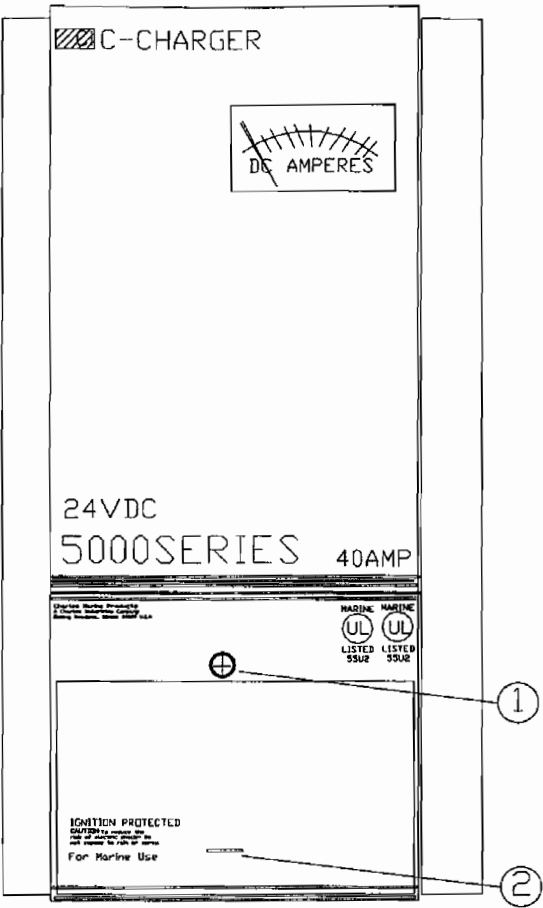
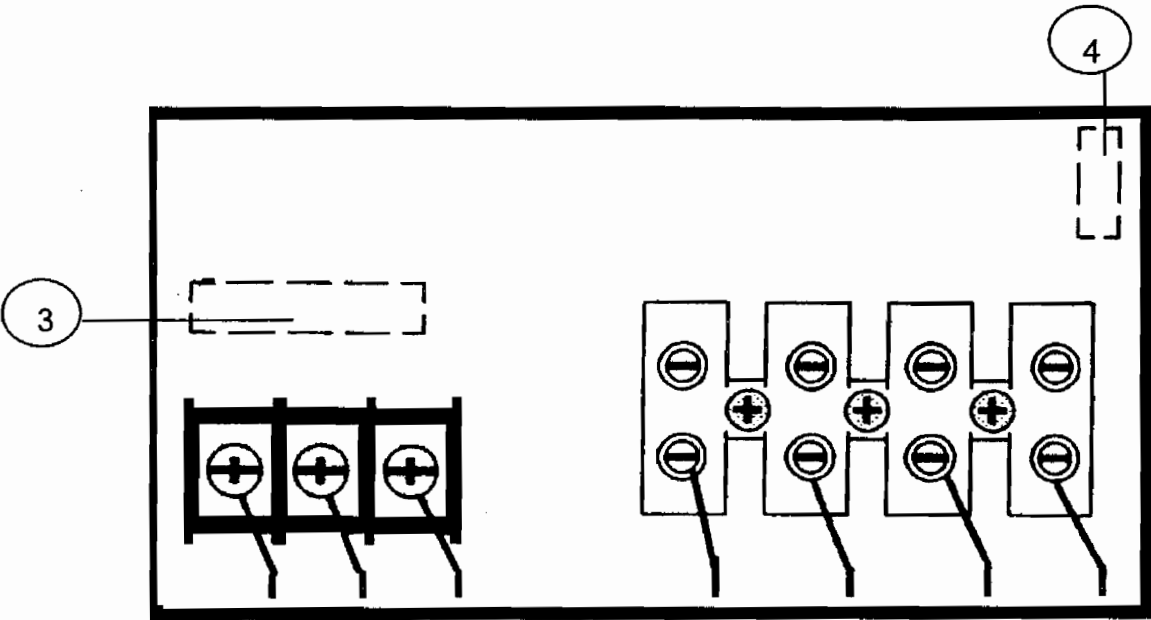

Figure 3-1. 40-AMP Battery Charger
Figure 3-2. 40-AMP Battery Charger Circuit Board
a. Repair (Refer to Figure 3-1 and Figure 3-2)